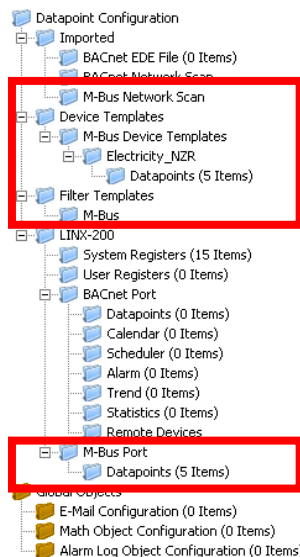

Figure 207: Data Point Manager Dialog with M-Bus folder list
- The folder list (Figure 207)